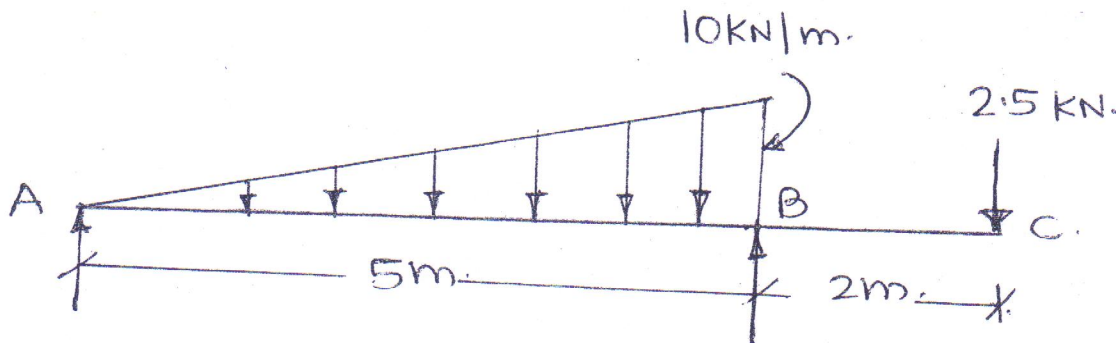

Fig. Q. 3(a).
Q.3(b) A cantilever beam is loaded as shown in Fig.Q.3(b). Find the ratio of magnitude of load 'P' to that of the intensity of uniformly distributed load 'w', such that the deflection at the free end of cantilever is zero. EI is constant.